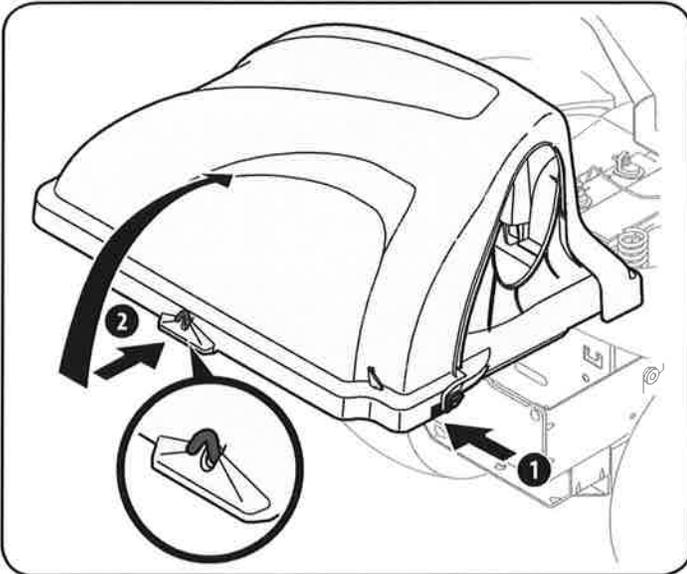

Figure 27
2. Open grass catcher cover by pushing in on the rear, right-side tab with your right-hand, as shown in (1) of Figure 27, and lifting with your left-hand in the rear center, (2).